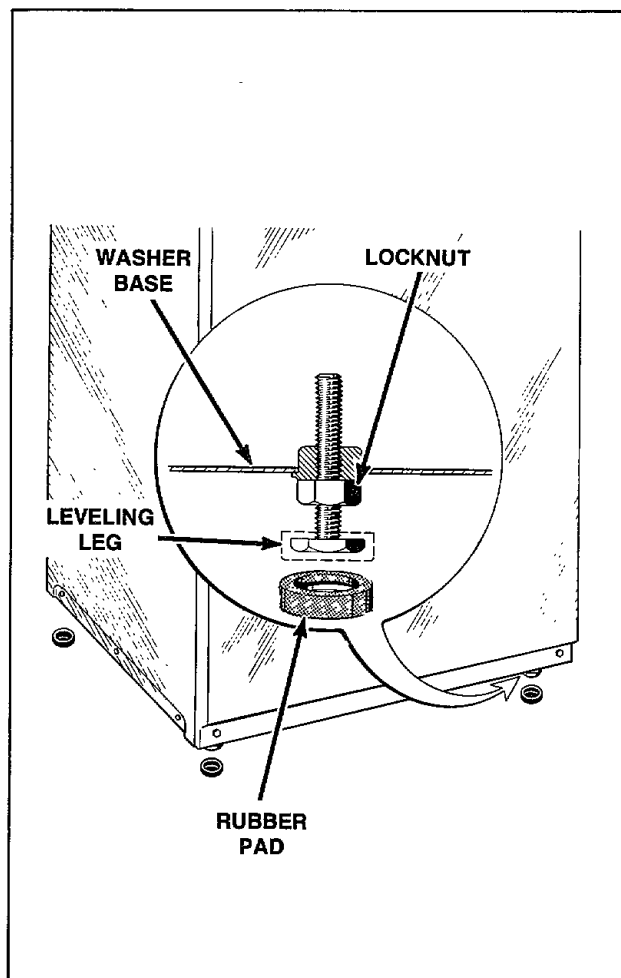

Figure 58
37. LEVELING LEGS (Refer to Figure 58)